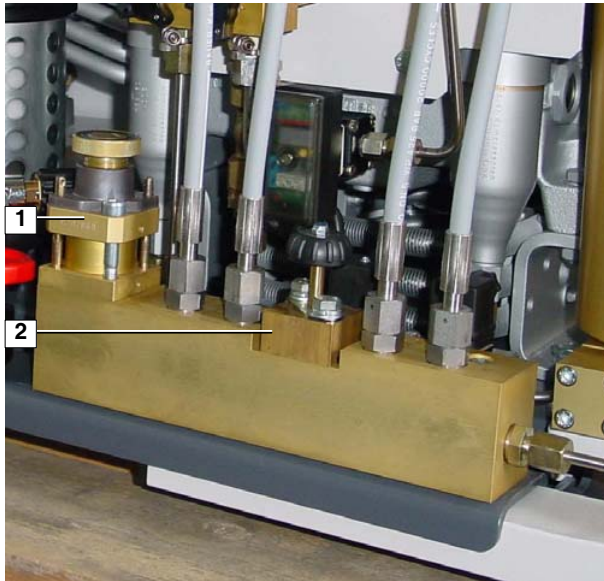

Abb. 19 Change-over device
(Abb. 19) This device allows bottle filling to 200 bar (3,200 psig) with a 300 bar (4,700 psig) rated unit. Safety valve (1) and filling device PN 200 bar are connected by opening change-over valve (2) and the connected bottles can be filled with a 200 bar pressure, as described in "Filling the bottles".